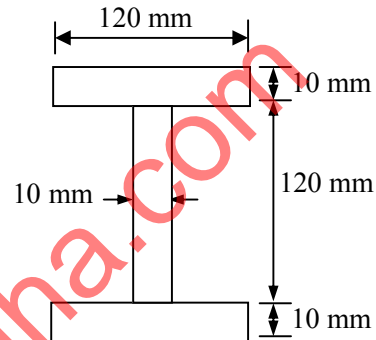

Fig. 6 Que 3(a) OR
- Q.3** (a) A section of a beam shown in **Fig. 6**, has moment of inertia about neutral axis is $11.6 \times 10^6 \text{ mm}^4$. The section is subjected to shear force of 14.5 kN. Determine value of maximum shear stress on the section. **04**